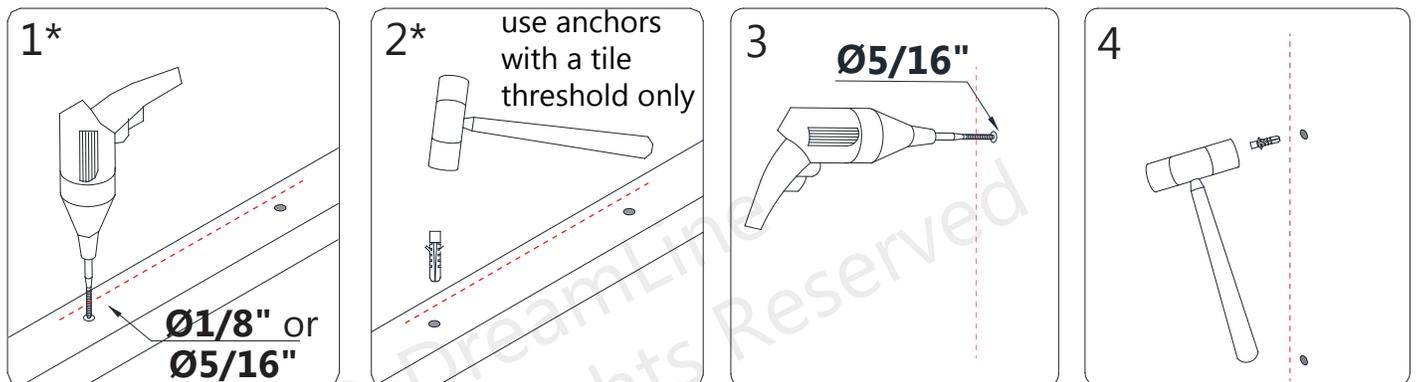

Fig 17
- **Ø5/16"** holes into the wall and insert the **Wall Anchors (#13)**. **(Fig 17)**